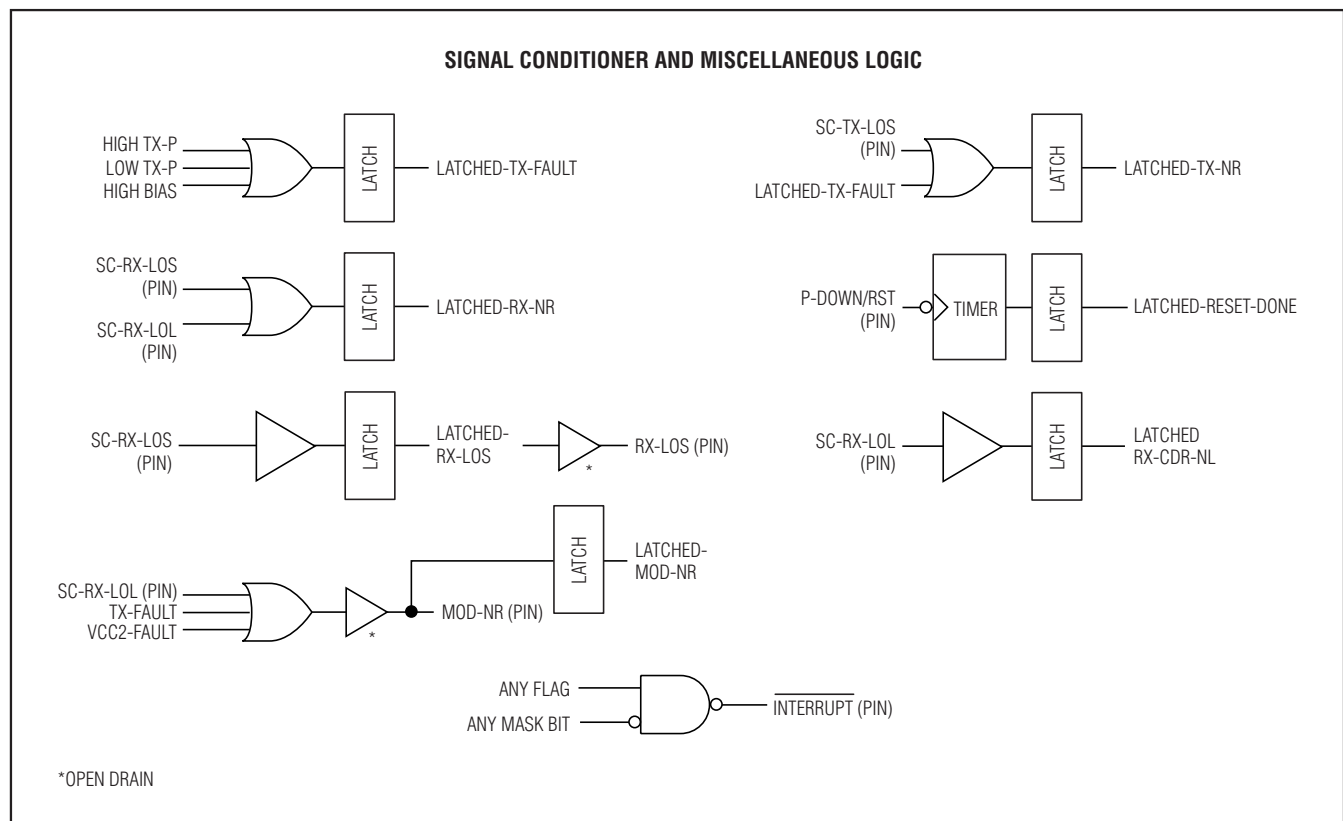

Figure 11. Signal Conditioner and Other Logic
The DS1862A also has flags that are set by certain logical conditions on signal conditioner (SC) pins: SC-RX-LOL, SC-RX-LOS, SC-TX-LOS. Similarly, for each latched signal conditioner flag there are also mask bits that are capable of preventing the alarm or warning flag from causing an INTERRUPT pin to assert. Again, flags are cleared automatically whenever their memory address is read. See Figure 11 for more detail.